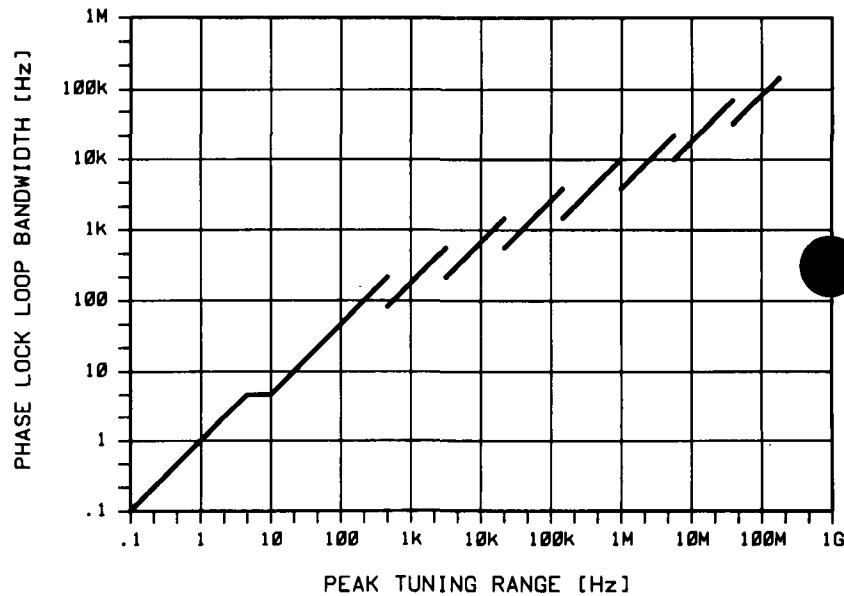

Figure 3-45. Graph of Phase Lock Loop Bandwidth Provided by the Peak Tuning Range
2. Estimate the Phase Lock Loop (PLL) bandwidth for the measurement using the PTR of your VCO and the graph in Figure 3-45.